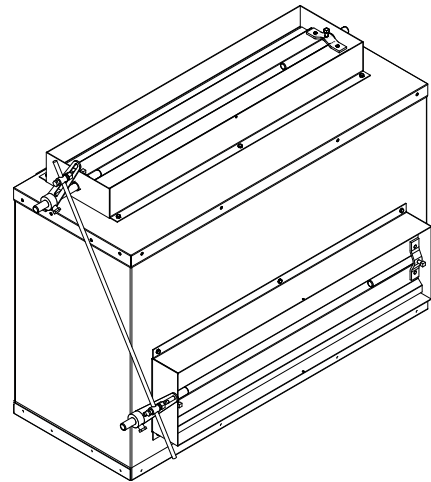

Fig. 14 — Install Damper
6. Insert 5/16 in. damper rod through mounting hole of each swivel. (See Fig. 14.) Position shaft to ensure there is not interference at any point during travel. Tighten rod clamp of swivel onto each damper rod.